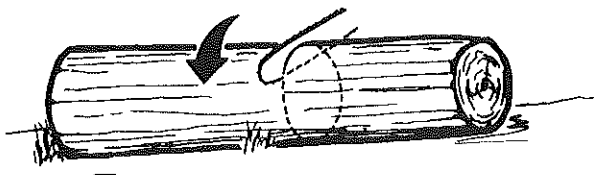

Fig. 17
- 1. Log supported along entire length: Cut from top (overbuck), being careful to avoid cutting into the ground (Fig. 17).